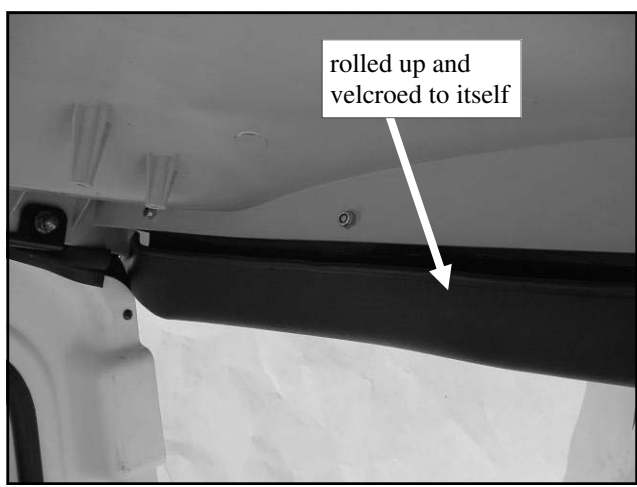

Fig. 3.8 (view from rear)
3.8 Per fig. 3.8, if the windshield is not used or is in the folded down open position, the front draft barrier can be rolled up and stored away via the mating velcro that is sewn on. This piece can be rolled up for general ventilation purposes also.